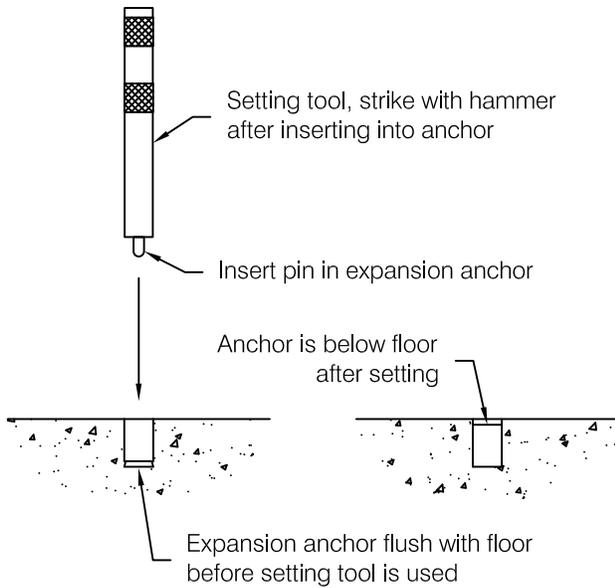

fig 3
- Step 6:** Expand the anchor in place using the setting tool provided, see **fig 3**. Use a firm hammer strike on the on the setting tool to “Set” the anchor in place. This action causes the top of the anchor to drop roughly 3/32” from its pre-set depth.